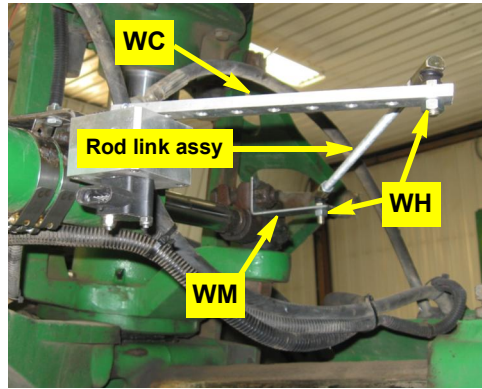

Figure 2e: Rod link assembly installed
- e. Using hardware **WH**, install the rod link from step 1 between the last hole in WAS arm **WC** and bracket **WM**. Set the swivel studs downward at both ends (Figure 2e). Leave swivel nuts **WH** loose.